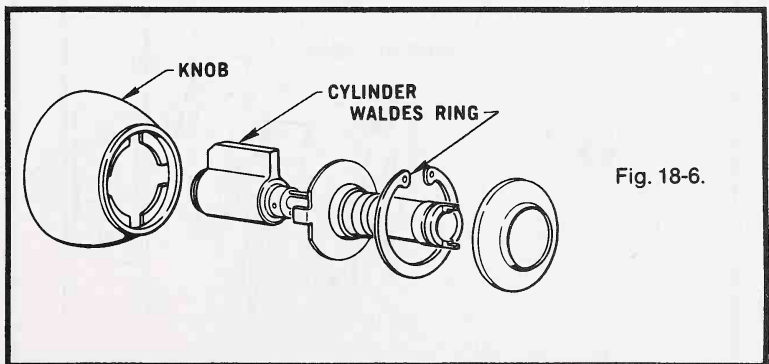

Fig. 18-6.
5. Using special Waldes ring pliers No. 3, remove the large Waldes ring from the groove and withdraw the shank and cylinder (Fig. 18-6).